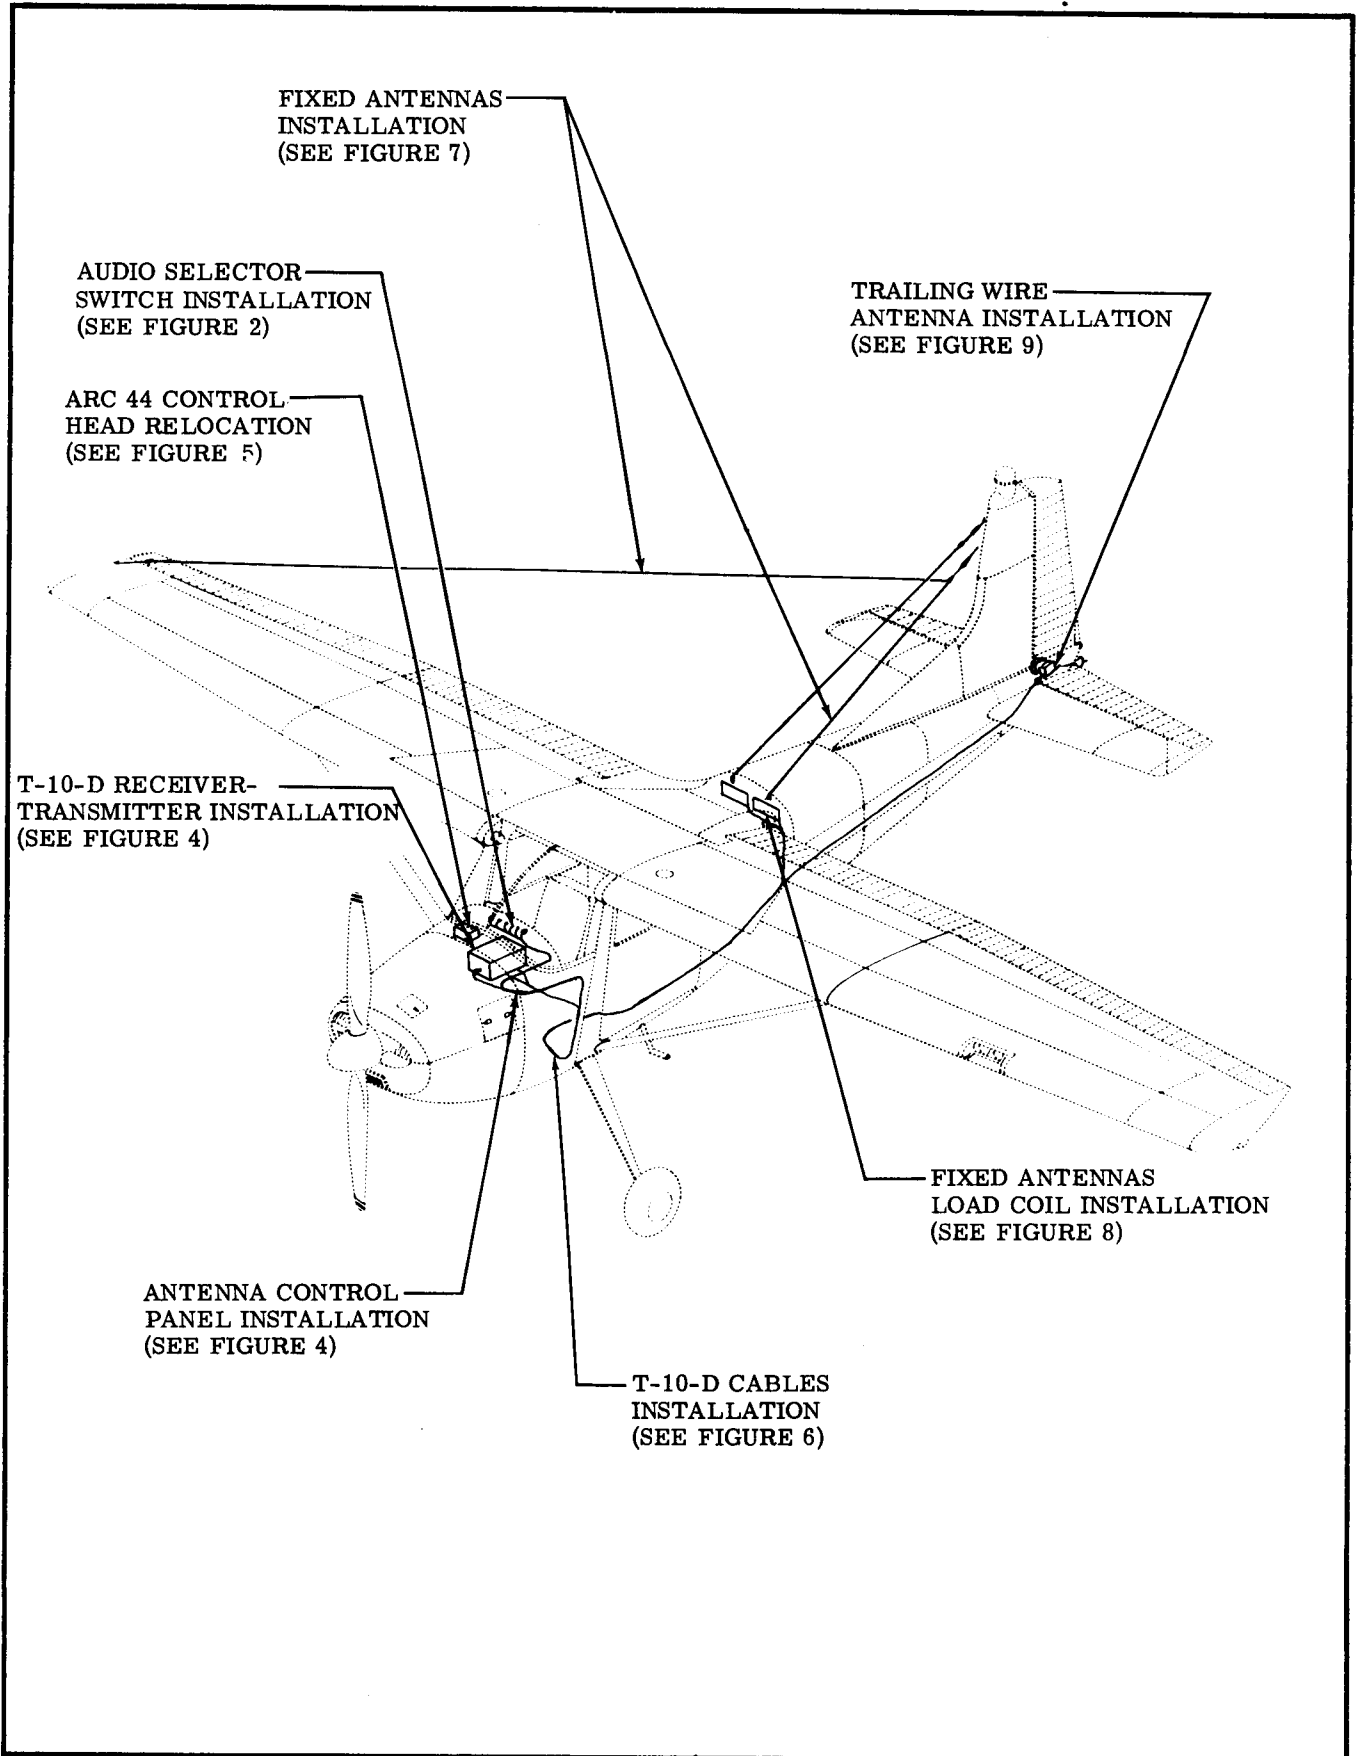

Figure 1. Sunair T-10-D H. F. Radio Installation
6. DESCRIPTION OF INSTALLATION - Installation of this kit consists of (Refer to figure 1):